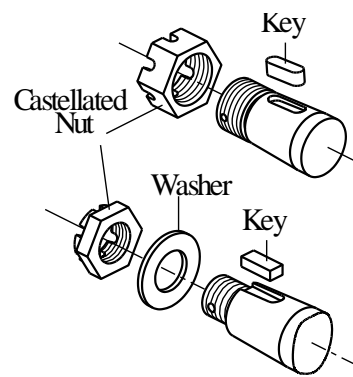

Fig.10
23. Install key in shaft key groove. For cone shafts install washer and screw castellated nut (see Fig.10).